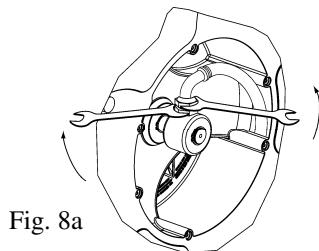
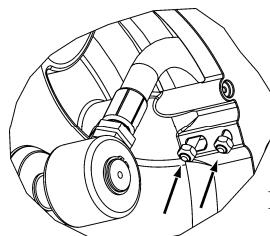

Fig. 8a
Fig. 8b
- Fix the hose to the swivel as indicated in figure 8a and fix the U bolt as shown in figure 8b.
- Disconnect the hose as seen (Fig. 8a). Release the hose from the disk by removing the clamp (Fig. 8b).
- Ta loss slangen från sviven enligt (Fig. 8a) och ta bort klammern (Fig. 8b).